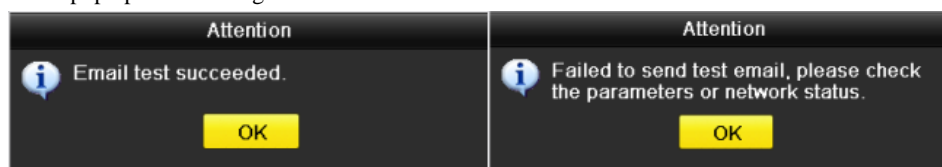

Figure 9. 14 Email Testing Attention
7. You can click **Test** button to test whether your Email settings work. The corresponding Attention message box will pop up. Refer to Figure 9. 14.